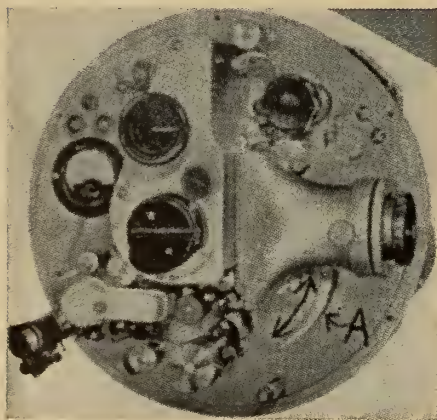

FIGURE 6
Figure 6 gives pictures of several details of the mechanism of the projector. The whole mechanism (mercury lamp and lenses) can be moved in a vertical direction (see A) by means of a knob. In this way the position of the film window can be so adjusted that in the
positions of rest of the rotating sector it corresponds exactly with the position of one film picture (framing). Another knob in the middle of Fig. 6 is that of a revolving head which contains two mercury lamps. By giving this knob a half turn the lamps can be interchanged. At the same time the connections for electric current and cooling water are switched over to the lamp put into use. The switching on takes place in four steps:
1. Switching on of motor and primary winding of transformer. 2. Motor brought up to normal number of revolutions. 3. Ignition of the lamp. 4. Current in lamp raised to normal working strength. The lamp current can be read off from the ammeter. In the lower left-hand corner of Fig. 6 is the system for sound scanning. Below to the extreme left is the exciter lamp. Diagonally upward follow: a condenser, a slit,